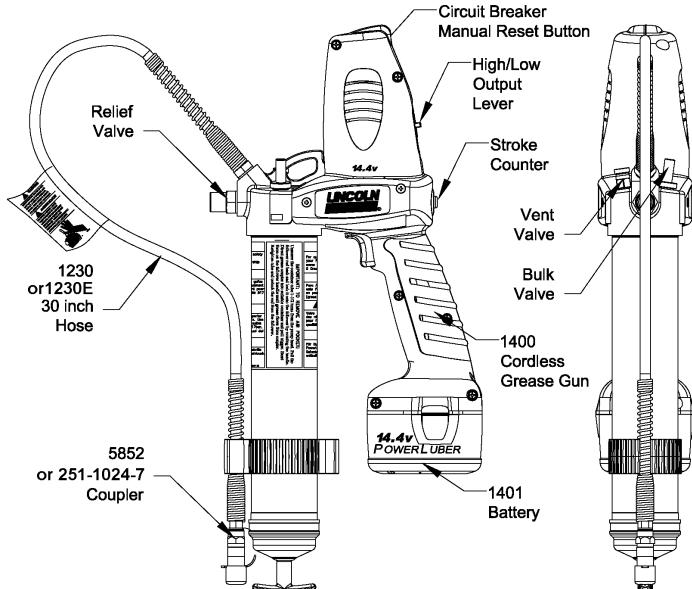

Figure 1
The relief valve (fig. 1) is factory set to relieve pressure above 7000 PSI (482 bar). The valve also is an indicator of the bearing and lubrication line conditions. If grease comes out of the Safety Valve, it indicates a clogged or tight bearing or fitting or line. Correct this before continuing lubrication with the PowerLuber.
The tool is equipped with capability for calibration. This is accomplished by measuring (weighing) grease flow output and dividing the weight of grease by number of strokes. Simply put your thumb on the stroke counter button (Fig. 1) during operation of the tool and count.
**When motor is not running**, push the lever (Fig. 1) until letter "L" or "H" will be completely visible in the window.
To prime, operate the gun until grease flows from the hose. Use vent valve (Fig.1) to expel air pockets.